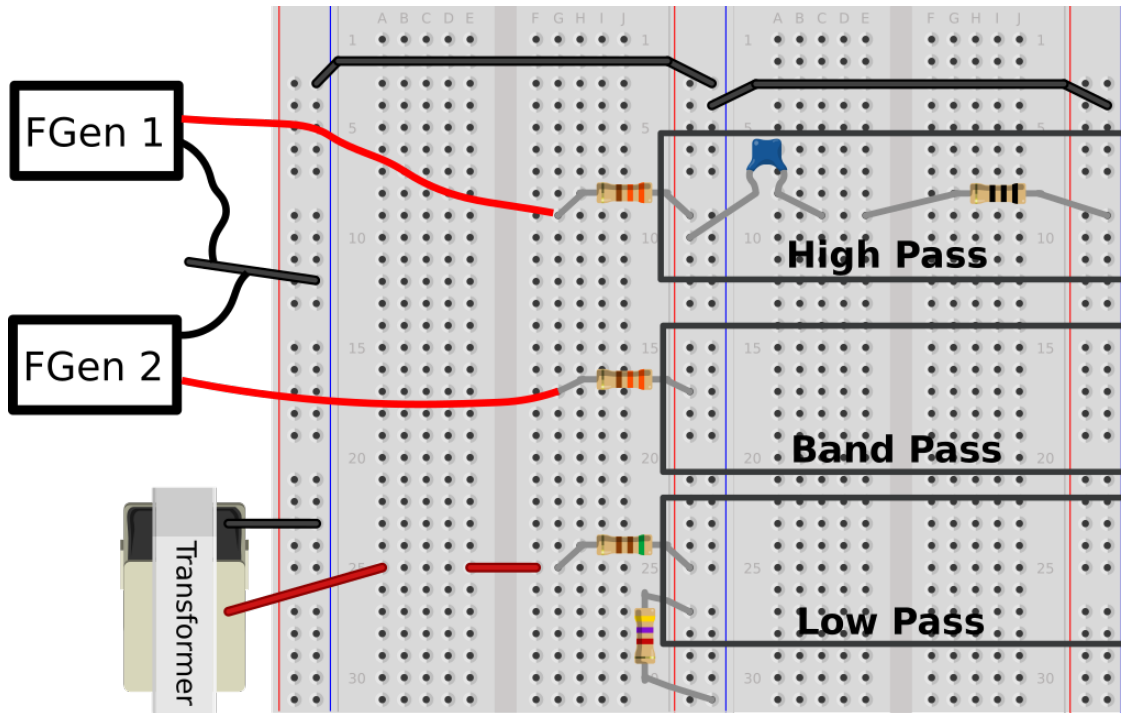

Figure 3: Proper breadboard layout, an example high pass filter is shown
- Refer to figure 3 for how to properly layout your breadboard.